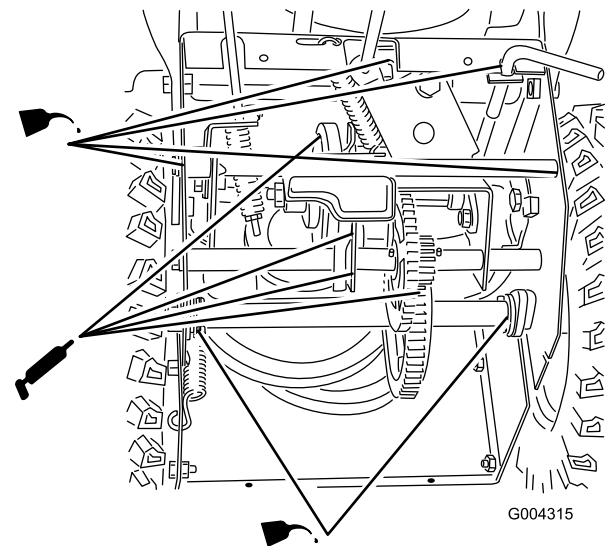

Figure 35
4. Lightly lubricate the machine with light oil as shown in Figure 35.
6. Grease the machine as shown in Figure 35.